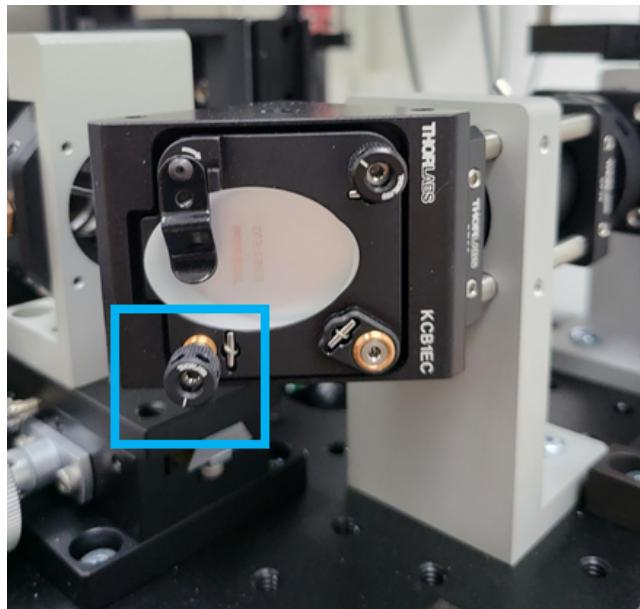

Figure 7. Adjustment knob on front mirror for centering the iris.
- b. Close the iris on the illuminated side and note any asymmetries in the image. If the iris slit is asymmetric, use the lower screw of the front mirror on the illumination arm (see Figure 7) and make the preview image symmetric.